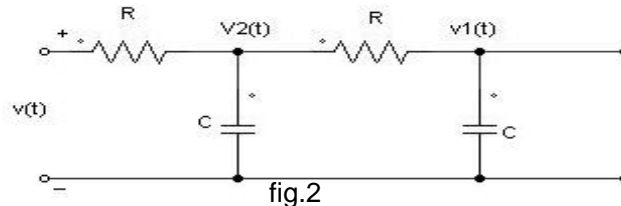

fig.2
2. Obtain the state model of the electrical network shown in fig.2 by choosing  $v_1(t)$  and  $v_2(t)$  as state variables.